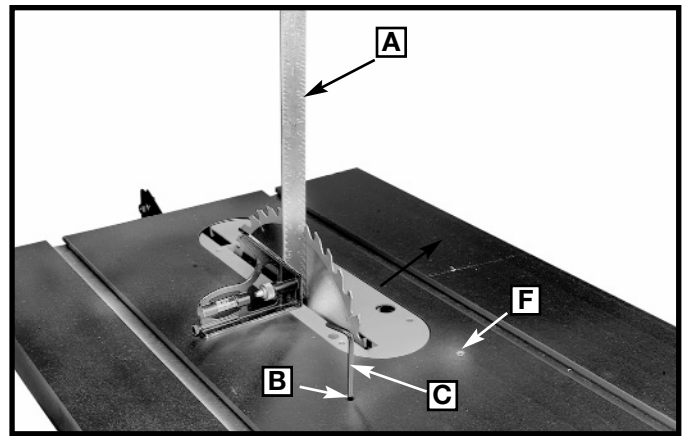
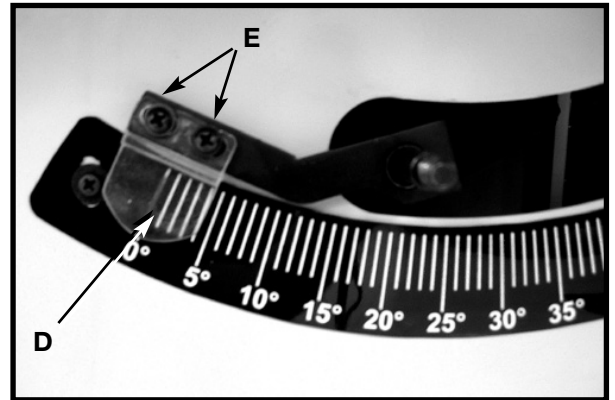

Fig. 33
Fig. 34
4. Use a combination square (A) Fig. 33 to see if the blade is at 90° to the table surface.
5. If the blade is not at 90° to the table, loosen set screw (B) with 5/32" allen wrench (C), and turn the blade tilting handwheel until the blade is 90° to the table. Turn set screw (B) clockwise until it bottoms.
6. Adjust the pointer (D) Fig. 34 to point to the zero degree mark on the scale by loosening screws (E), adjusting pointer (D), and tightening screws (E).
8. If the blade is not at 45° to the table, loosen set screw (F) Fig. 33, and turn blade tilting handwheel until the blade is 45° to the table. Turn set screw (F) clockwise until it bottoms.